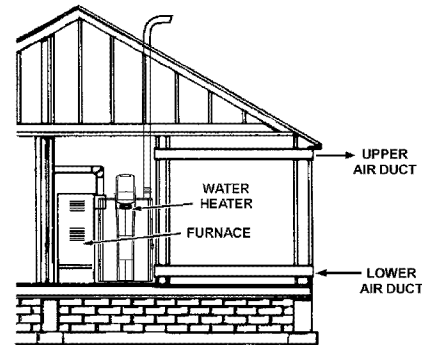

FIGURE 14
4. When ducts are used, they should be of the same cross-sectional area as the free area of the openings to which they connect. The minimum short side dimension of rectangular air ducts should not be less than 3 in. (7.6cm) (see Figure 14).
3. When communicating with the outdoors through horizontal ducts, each opening should have a minimum free area of 1 square inch per 2,000 Btu per hour (11 cm²/kW) of total input rating of all equipment in the enclosure (see Figure 14).